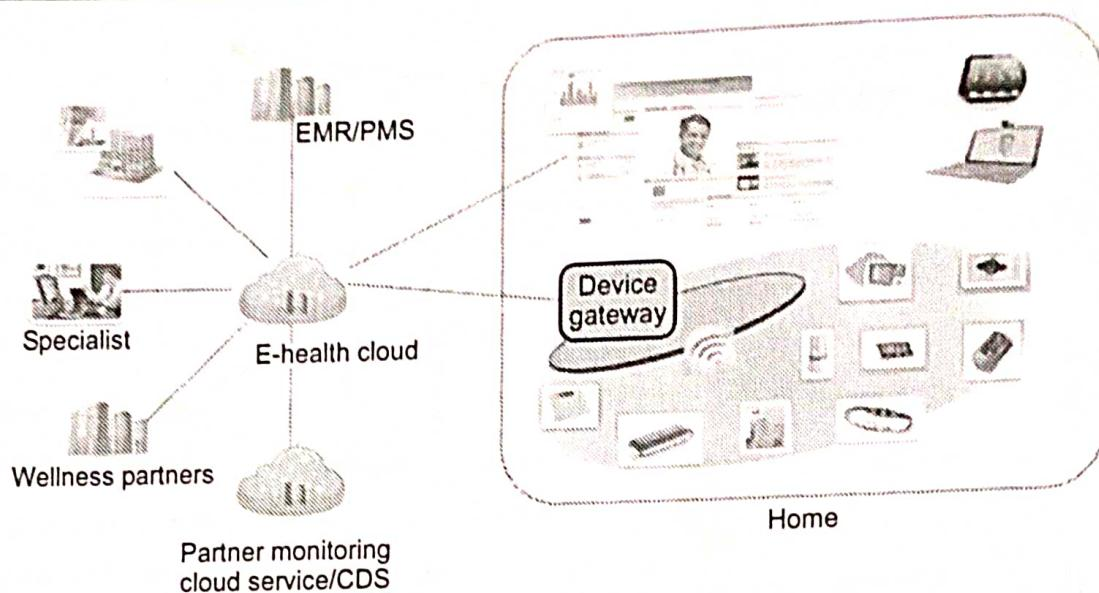

Fig. 7.6.1 High level E - health ecosystem architecture
- Fig. 7.6.1 shows high level E - health ecosystem architecture.